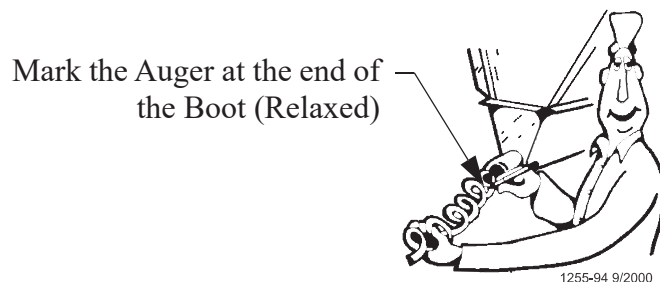

Figure 44.Measure the Auger from the relaxed position
10. Pull the auger at the boot end until it begins stretching. Then let it relax. In the *relaxed* position, mark the auger at the end of the boot. (See Figure 44.)
Grip the auger 8" [200 mm] ahead of this mark with locking pliers. Allow the auger to pull back into the boot so that the pliers rest against the end of the boot. (See Figure 44.)